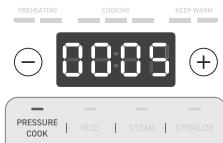

Figure 3.3
4. Select **PRESSURE COOK** and press the **-** or **+** buttons to set the cook time for 5 minutes. [Figure 3.3]